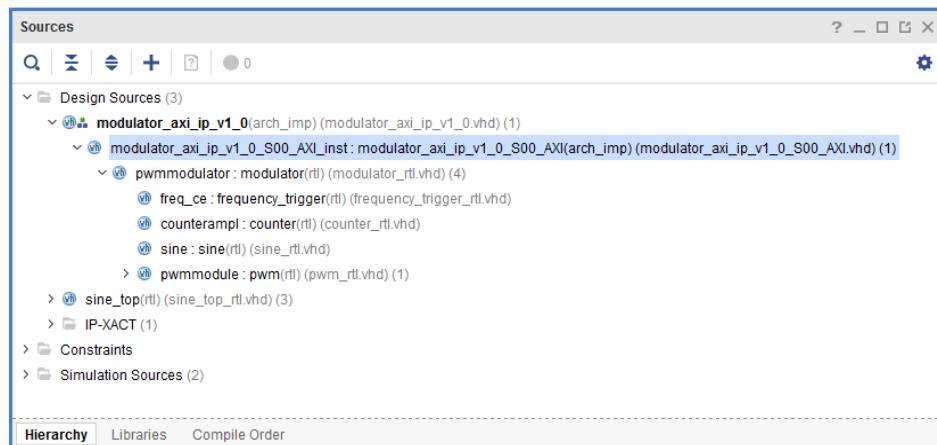

Figure 12.79: Hierarchy window with integrated Modulator module within AXI peripheral
20. You should notice that the **modulator_rtl.vhd** source file has been integrated into the hierarchy, because we have instantiated it within the AXI peripheral, see Figure 12.79.